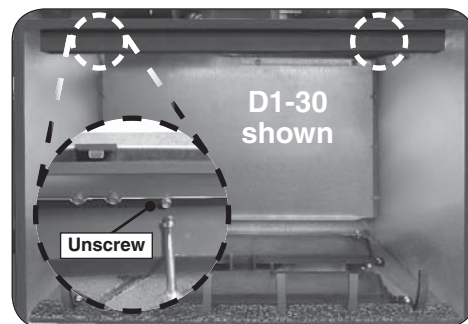

Fig. 31-1 Remove lintel
2. Remove the lintel found at the top front of the unit (to allow for panel placement). For D1-30 and D1-36 models, use a $\frac{5}{16}$ " nut driver to remove the two hex screws found on each side of the lintel. For D1-25 models, use a Phillips screw driver. See Fig. 31-1.